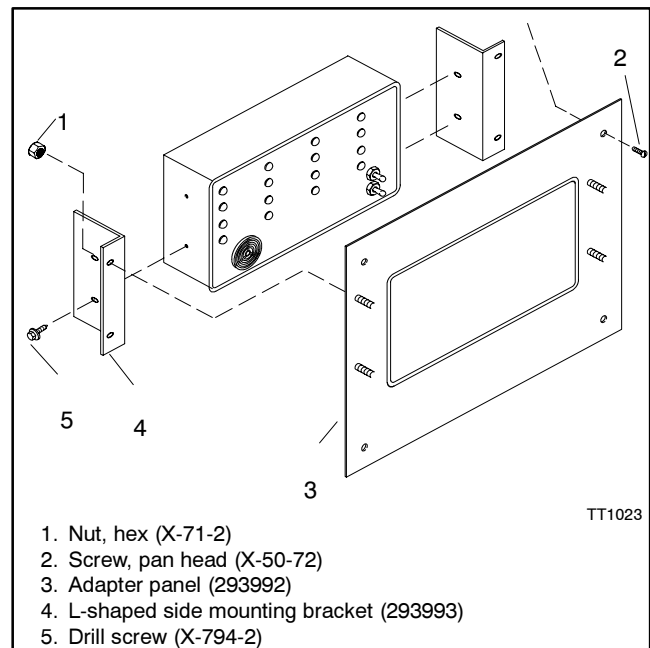

Figure 14 Flush-Mount Remote Annunciator Installation
8.3.1 Reassemble the front panel to the back panel using two drill screws (X-794-2). See Figure 14.